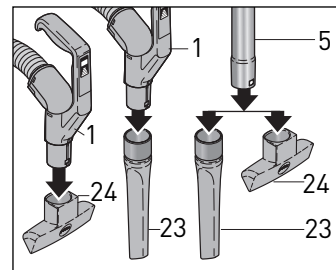
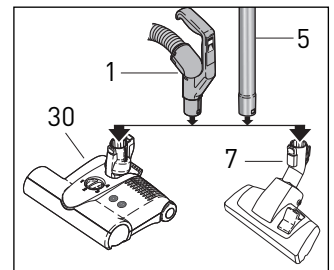

Figure 15
Figure 16
To use the hose without the telescopic tube, switch off the power and unplug the vacuum. Push the handle release button (3) and pull the HANDLE out of the end of the telescopic tube. Do not try to separate the hose from the handle! Insert the crevice tool (23), dusting brush (27) or upholstery tool (24) onto the end of the handle (figure 15). You may also connect a head to the handle (figure 16). After use, switch off the power, unplug the vacuum and remove the attachment. Re-insert the handle into the telescopic tube making sure it is seated correctly and snap it into place.